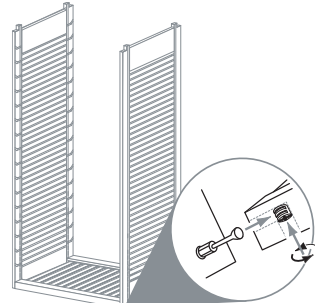

FIG. 3.3
4. Secure (C) shelf to tower sides with cam nuts facing the floor. (Fig. 3.3)